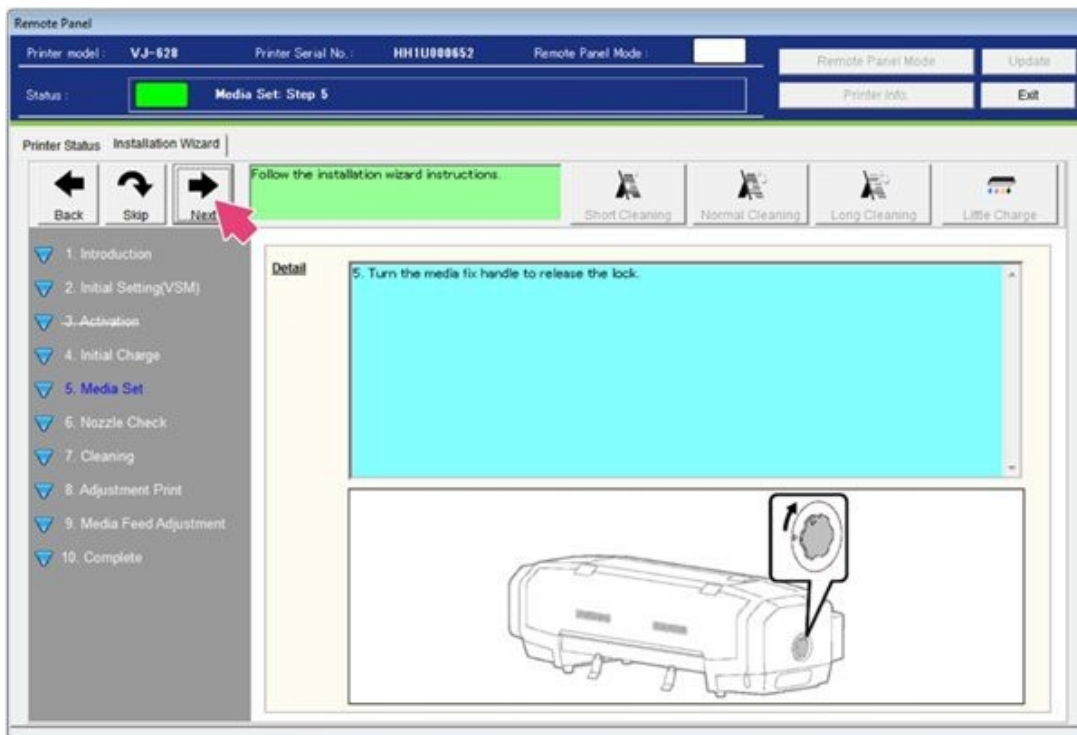

Figure 68
55. Turn the media handle to release the lock; then select **Next**. See Figure 68.